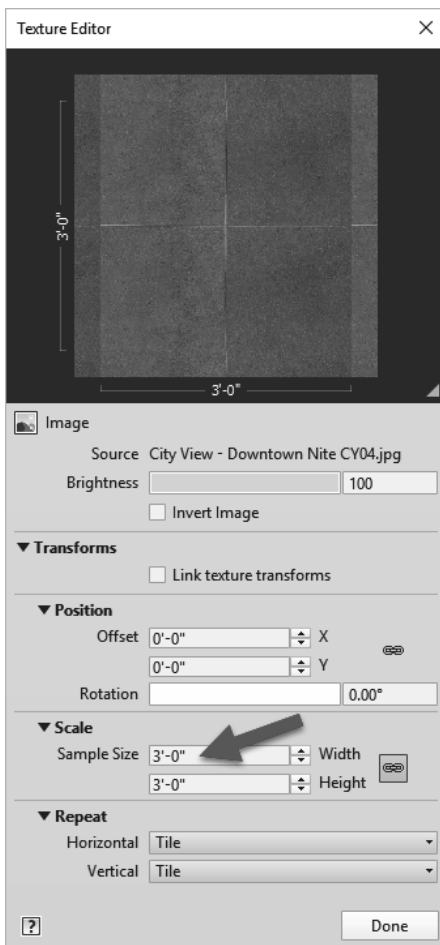

FIGURE 4-4.17 Adjusting texture size
70. In the *Texture Editor*, change the *Sample Size* to **3'-0"x3'-0"**; this is for two 18" tiles in each direction (Figure 4-4.17).